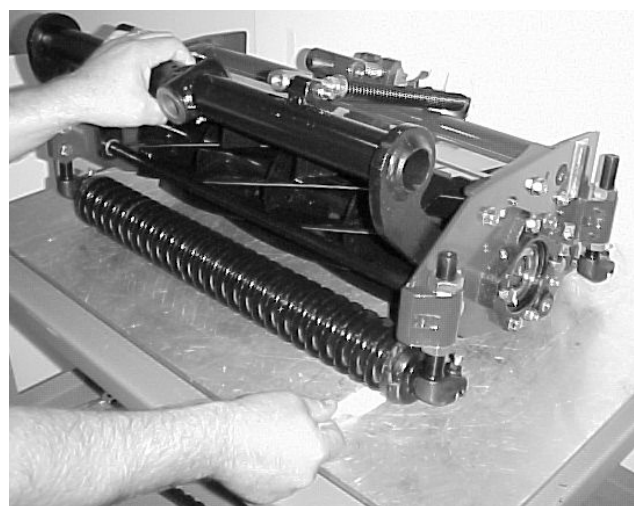

Figure 12
4. Use a piece of newspaper or visually check to see if any gap exists between front roller ends and flat surface (Fig. 12). **If needed, adjust front height-of-cut rods until both ends of roller are in contact with level surface.**